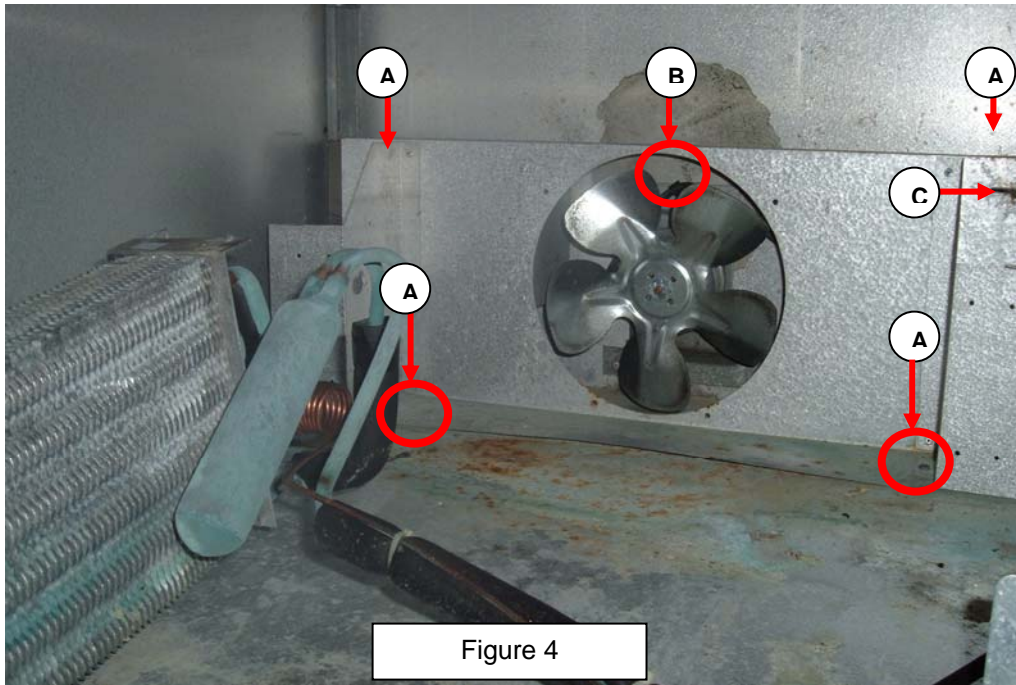

Figure 4
8. Carefully move the Evaporator Counter-clockwise as shown in Figure 4. ***Be careful not to kink or bend the refrigeration tubing.***
9. Remove the screw securing the P Clamp and fan motor (Figure 4 marked "B").
10. Remove the Screws, identified with arrows marked "A" in Figure 4, from the Evaporator Fan Shroud.
11. Carefully remove the Cold Control Sensor, marked "B" in Figure 4, from the Evaporator Fan Shroud.